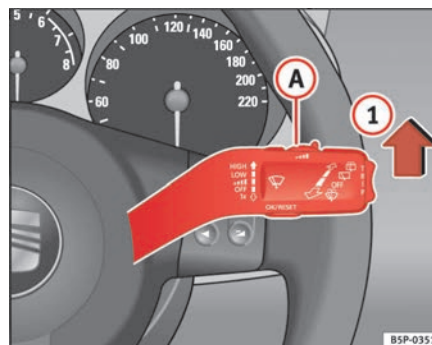

Fig. 84 Windscreen wiper lever
- Move the windscreen wiper lever into position ① ⇒ page 122, fig. 84.
- Move the control ① to the left or right to set the sensitivity of the rain sensor. Control to the right: highly sensitive. Control to the left: less sensitive.